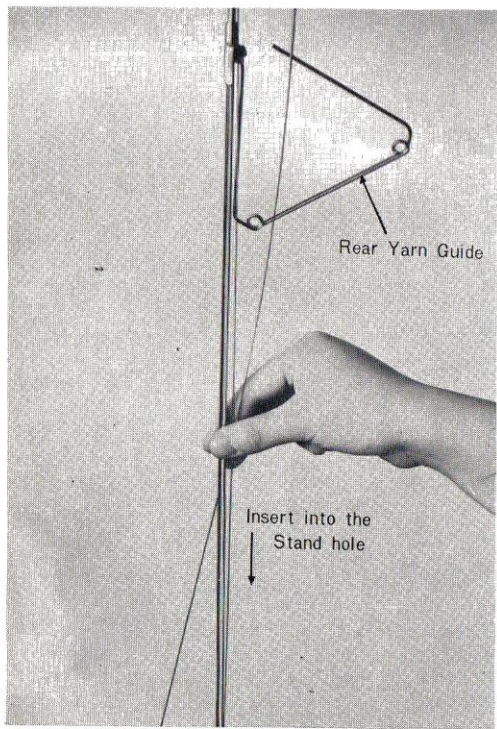

Fig. 17
- b. Fit the end of the rod into the stand hole at the center of knitter with the rear yarn guides away from you. (See Fig.17)